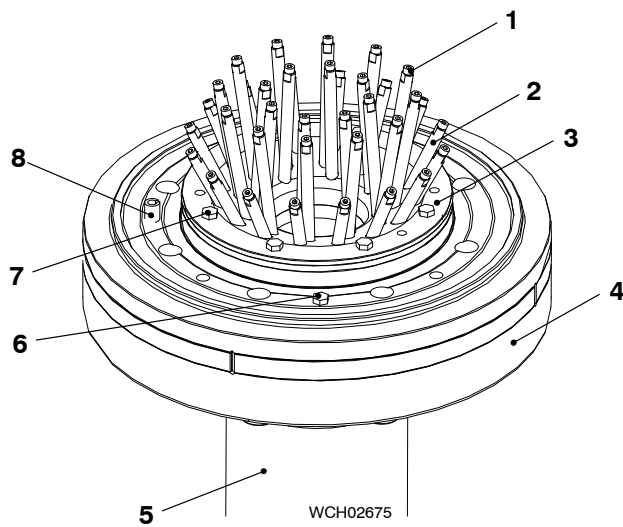

Fig. 3 7
- 2) Tighten equally the two jacking screws until there is a clearance between the piston head (3) and the piston rod (2).
- 3) Attach the engine room crane to the lifting tool (94341, Fig 3).
- 7) Remove the jacking screws (94364A) from the top of the piston rod (2).
- 8) Remove the piston skirt (4, Fig. 3) from the piston rod (5) as given in step a) to step c):
- a) Remove the two bolts (6).
- b) Use the jacking screws (94364C) to remove the piston skirt (4) from the piston rod (5).
**Note:** When you lift the piston skirt (4), make sure that the spring dowel pin (8) does not catch.
- c) Lift the piston skirt (4) away from the piston rod (5).
- 9) Remove the ten nuts (7).
- 10) Use the two jacking screws (94364B) to remove the spray plate (3) from the piston rod (5).
- 11) If necessary, remove the pipes (2) and nozzles (1).